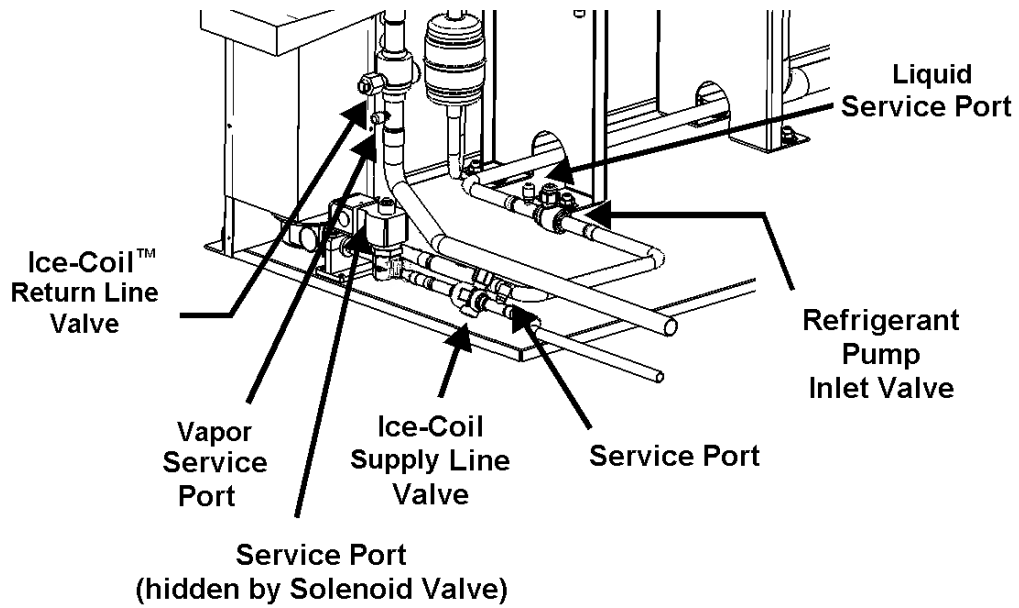

Figure 14 – Valve & Port Locations – Left Side
- Recommended refrigerant recovery points: liquid & vapor SERVICE PORTS (refer to Figure 14).
- access port on inlet to REFRIGERANT PUMP inside the ICE BEAR UNIT RMS area (see Figure 14)
- access port on ICE-COIL return line inside the ICE BEAR UNIT RMS area (see Figure 14)
- Use two (2) Schrader core remover tools to remove VALVE cores prior to attaching two (2) 3/8” (minimum), 36” length (maximum) evacuation hoses.